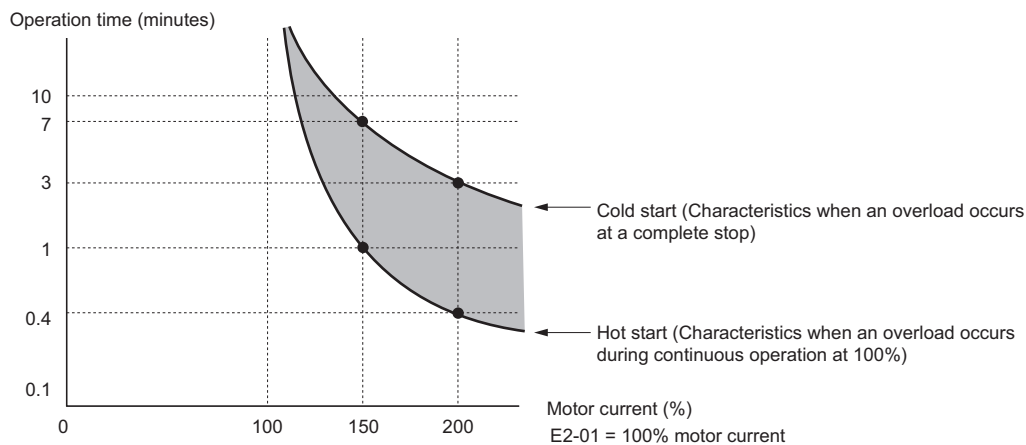

Figure 45 Protection Operation Time for General Purpose Motors at the Rated Output Frequency
- **Figure 45** shows an example of the electrothermal protection operation time using a general-purpose motor operating at 50 Hz with L1-02 set to one minute.